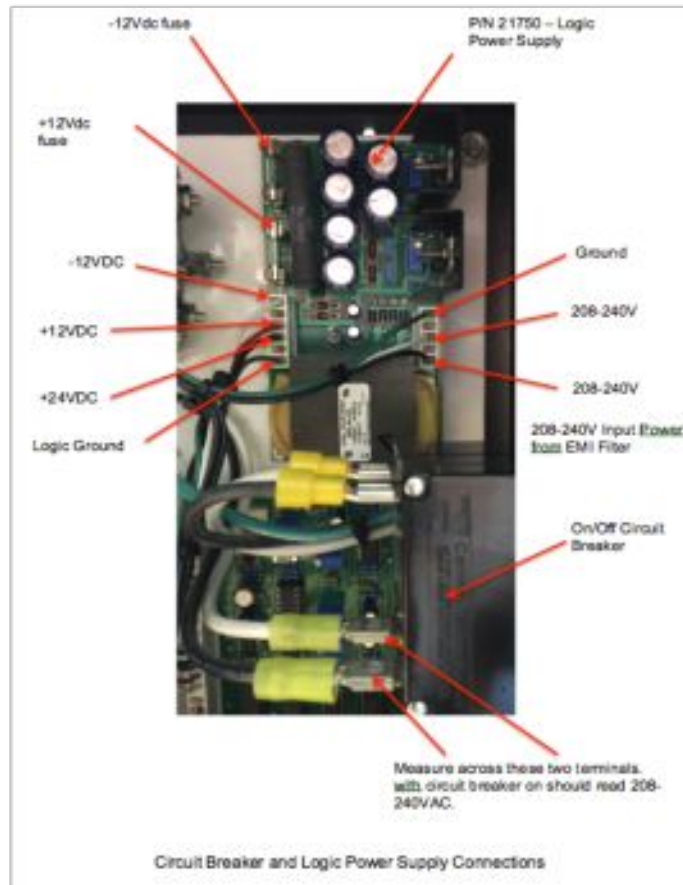

Fig. 2.
1.3 Turn on the unit using the on/off circuit breaker switch. Verify that there is power to the unit by measuring the voltage across the bottom 2 terminals of the circuit breaker switch using an AC voltmeter and appropriate test leads. The voltage should be between 208-240 Vac. If there is no voltage present, double check the voltage at the incoming power source. If it is OK, the circuit breaker is defective and should be replaced. See Fig.2.
1.4 Check the +/- 12Vdc fuses shown in Fig.2 using an ohmmeter. If either fuse is bad replace it. (P/N 32670, 5mm fuse 1.5). Then unplug the 6 position white connector shown on the left side of Fig. 2. Check the +12V, -12V and 24V supply signals from the logic power supply in fig. 2 by measuring with a voltmeter. (Note: The - lead of the voltmeter should be connected to logic ground). The +12 volt should read between 11.8 and 12.2Vdc. The -12V should read between -11.8 and -12.2Vdc. The +24 volt should read between 24V and 30Vdc. If any voltage readings are not correct, replace the P/N 21700 Logic Power Supply or return it to the factory for repair.
2.3 Unplug the AC input connector to the +/- 12V logic power supply as shown in Fig.2 on page 3. This is the 5 pin connector on the right side with the 208-240V designated wires. Attempt to turn on the unit. If it turns on the logic power supply is defective and must be replaced.